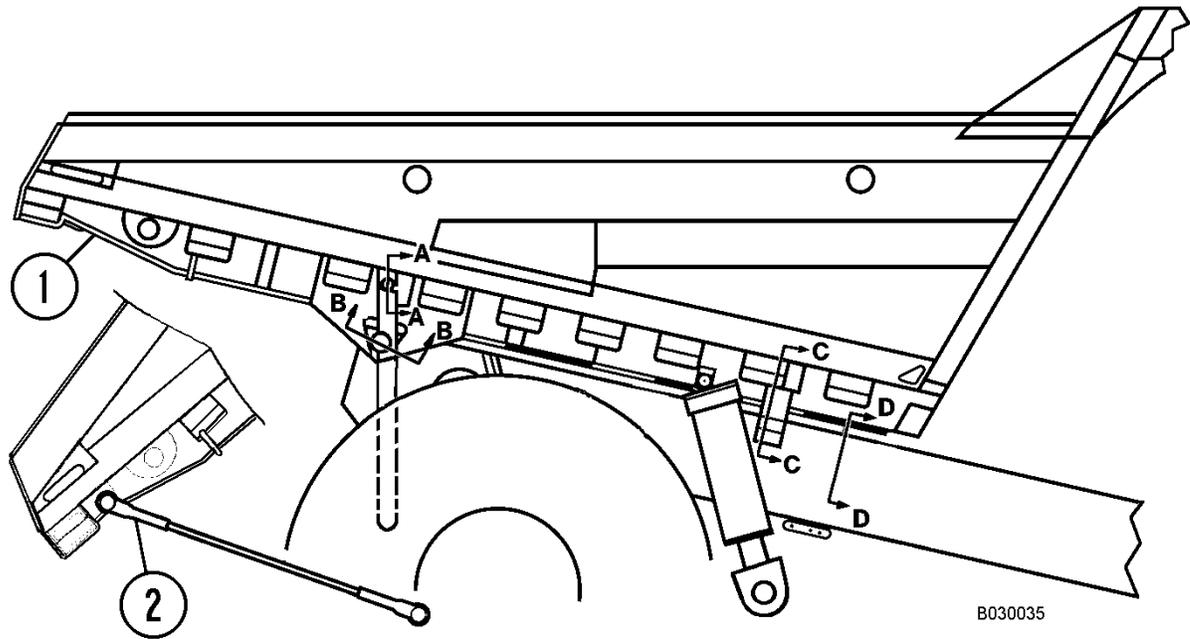

FIGURE 3-1. SECURING THE DUMP BODY
- To hold the dump body in the raised position, raise the body to its maximum height. Refer to Figure 3-1.
- Remove cable (2) from its stored position on the body and install between dump body (1) and the axle housing ear.